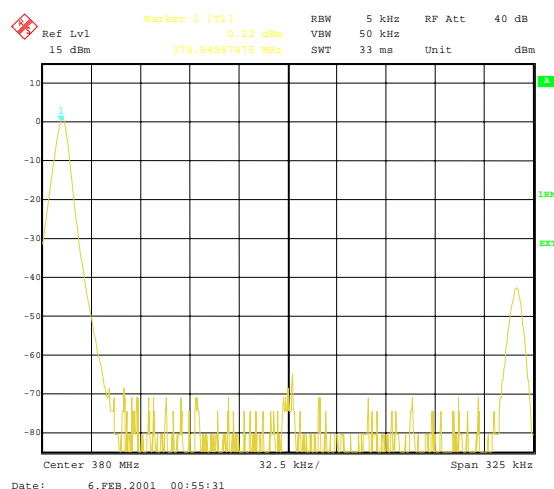

Figure 7. Optimized Carrier Suppression
9) Repeating Steps 7 and 8 may yield slightly better suppression. The output spectrum should look similar to Figure 7. (Note the suppressed carrier signal.)